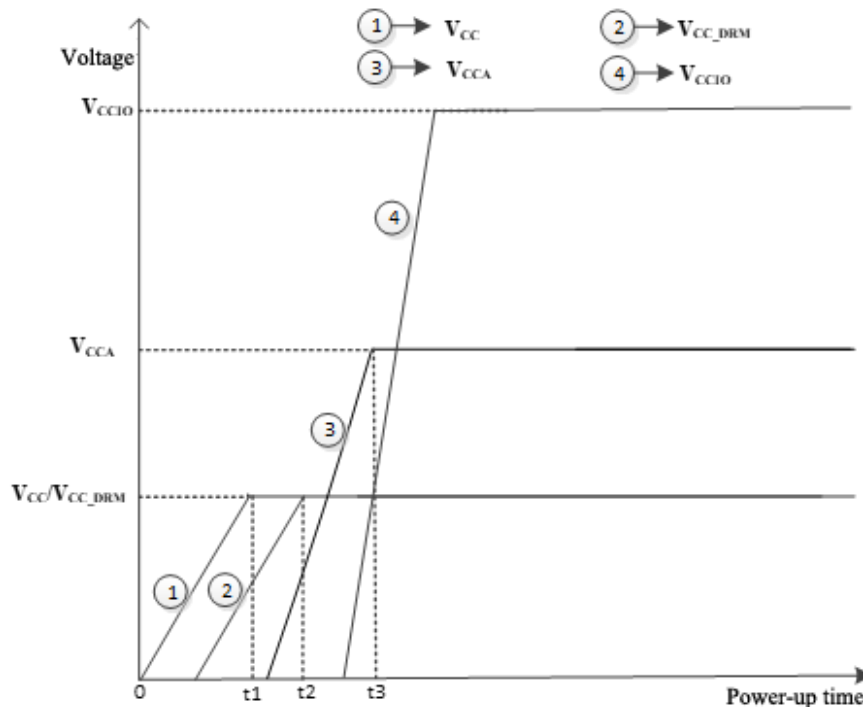

Figure 2-1 Power-up Timing Diagram
- Recommended power-up sequence: V_{CC} , V_{CC_DRM} , V_{CCA} , V_{CCIO} , as shown in Figure 2-1. Before reaching the typical voltage values, the following must be met: $V_{CC} \geq V_{CC_DRM} \geq V_{CCA} \geq V_{CCIO}$, and at this time, the power-up current is minimum.